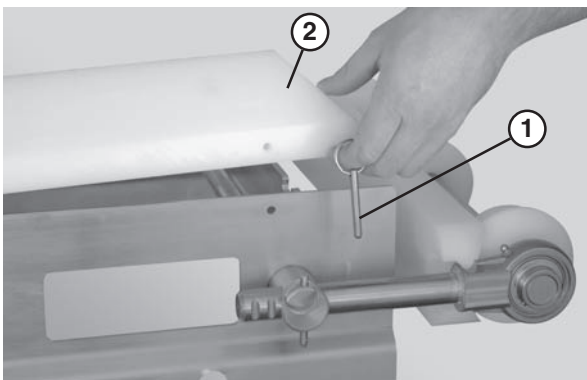

Figure 25
1. Remove the guides, if applicable, by removing the pull pins (Figure 25, item 1) that connect the guide (Figure 25, item 2) to the frame.